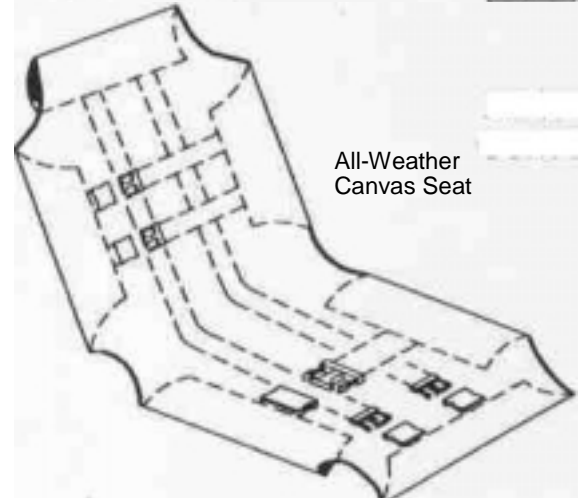

Fig. 7
Place seat (41) on back rest, with the wide flap at top. Install flaps around outside frame and buckle from top to bottom and side to side (see figure 7). Sit in seat and readjust tension until comfortable.